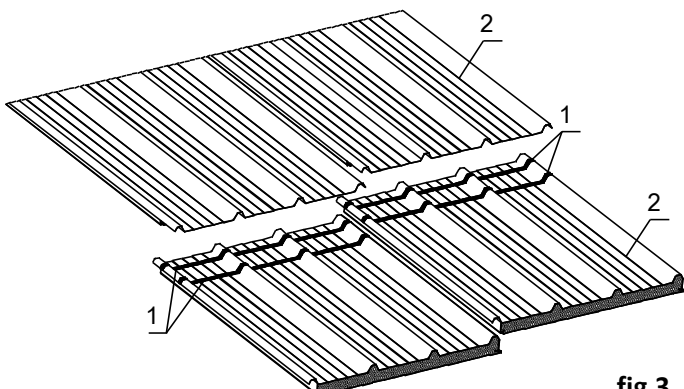

fig.3
c. The end lap joint of roof sandwich panels joined in length should be sealed using two runs of self-adhesive tape or butyl sealant (Fig.3).